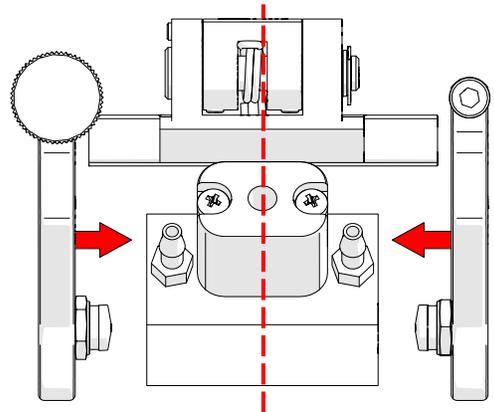

Fig. 42 - Attach probe holder arms
3. Align the wedge with the middle of the yoke and slide the probe holder arms around the probe/wedge (Fig. 42).